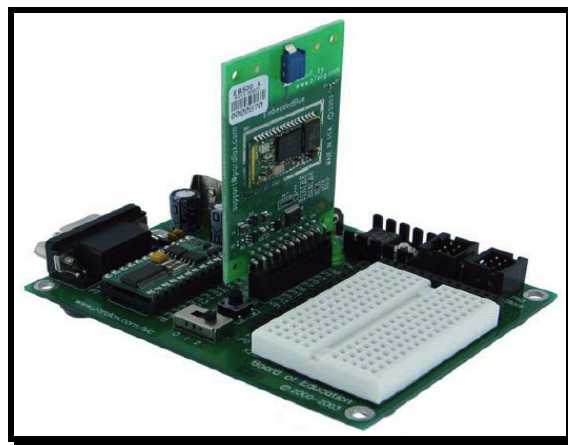

Figure 2: The Board Of Education carrier board with the EB500 connected.
The Education Carrier board accepts the EB500 as shown in Figure 2. The connector on the education board provides the necessary power connections and also connects the various pins on the EB500 to pins P0, P1, P2, P3, P5 and P6 on the BS2. P0 will be the receive pin and P1 will be the transmit pin. P2 and P3 will connect to the RTS and CTS hardware handshaking pins on the EB500, but will not be used in this project. Also P5 and P6 will connect to the Status and Mode pins on the EB500 and will not be used in this project. There is a warning in the EB500 manual that pin P5 on the BS2 must not be an output pin. So before you connect the EB500 to the BS2 make sure that you have programmed the BS2 previously ensuring that P5 is set up as an input. This can be achieved by programming the BS2 with nothing more than with the command END as a program. This makes sure that any previous programs in the BS2's memory are erased and that the BS2 is reset to all pins being inputs. We will develop programs on the BS2 later on.
- I. Turn on the power to the carrier board with the BS2 and EB500 connected as shown in Figure 2.
- III. You only need to do this step one time only for the first time. Later you can use the icon that will be established to carry out the rest of the procedure skipping to step 4. (See the next section for more details on this and step by step pictures showing the procedure in action (Figures 2 to 11)).